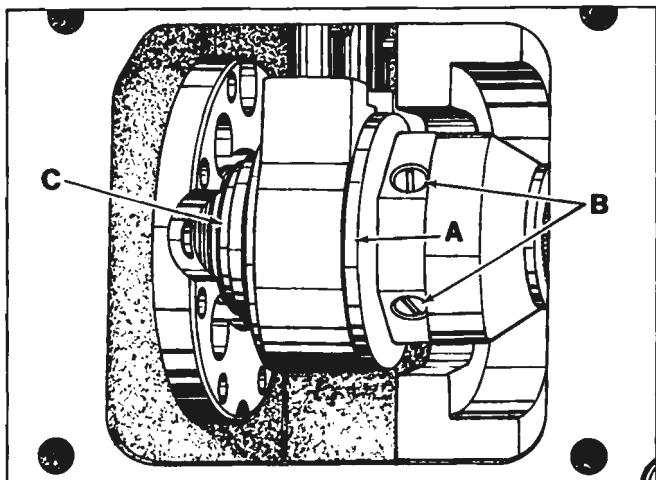

Fig. 17
Timing of spreader travel is determined by the position of spreader drive eccentric (A, Fig. 17) on the crankshaft. While rotating handwheel in operating direction, the spreader should begin to move to the left as needle bar rises  $1/8$  inch (3.8mm) from bottom of stroke. Adjustment can be made by loosening screws (B), advance or retard eccentric as required. Thrust eccentric against spacing washer (C) when tightening screws (B).